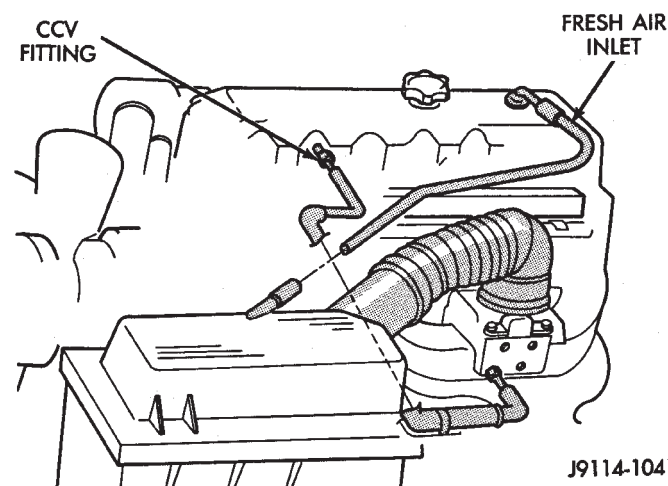

Fig. 28 Engine Cylinder Head Cover
(1) Disconnect negative cable from battery.
(2) Disconnect the Crankcase Ventilation (CCV) vacuum hose from engine cylinder head cover (Fig. 28).
(3) Disconnect the fresh air inlet hose from the engine cylinder head cover (Fig. 28).
(4) Remove the engine cylinder head cover mounting bolts.
(5) Remove the engine cylinder head cover.
(2) If a replacement cover is installed, transfer the CCV valve grommet the oil filler cap from the original cover to the replacement cover.
(3) Install engine cylinder head cover. Tighten the mounting bolts to 10 N·m (85 in. lbs.) torque.
(4) Connect the CCV hoses (Fig. 28).
(5) Connect negative cable to battery.